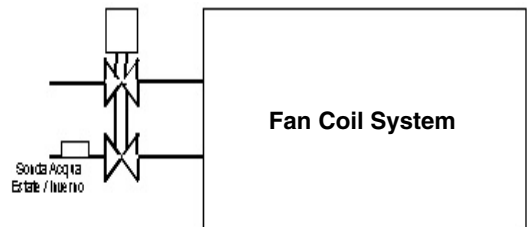

Fig. 7 Locating the Summer / Winter water sensor
1. **Water Temperature sensor for automatic Summer/Winter switching:** position the sensor upstream from the valve as shown in Fig. 7.
2. **Water Temperature sensor for automatic Summer/Winter switching and fan start consent thermostat:** position the sensor as shown in Fig. 7.